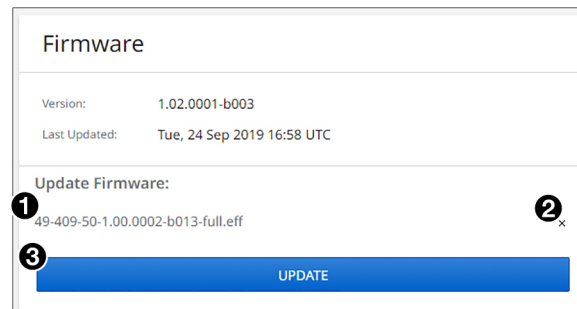

Figure 56. Firmware Update Dialog Box with a Firmware File Selected
3. Double-click the firmware file name. The **Open** window closes, and the selected firmware file name appears in the **Update Firmware** panel on the web page (see figure 56, 1).